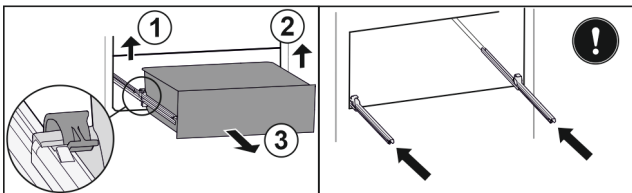

Fig. 46
- ▶ Lift left clamp and simultaneously pull drawer forwards on the left. Fig. 46 (1)
- ▶ Lift right clamp and simultaneously pull drawer forwards on the right. Fig. 46 (2)
- ▶ Remove drawer to the front. Fig. 46 (3)